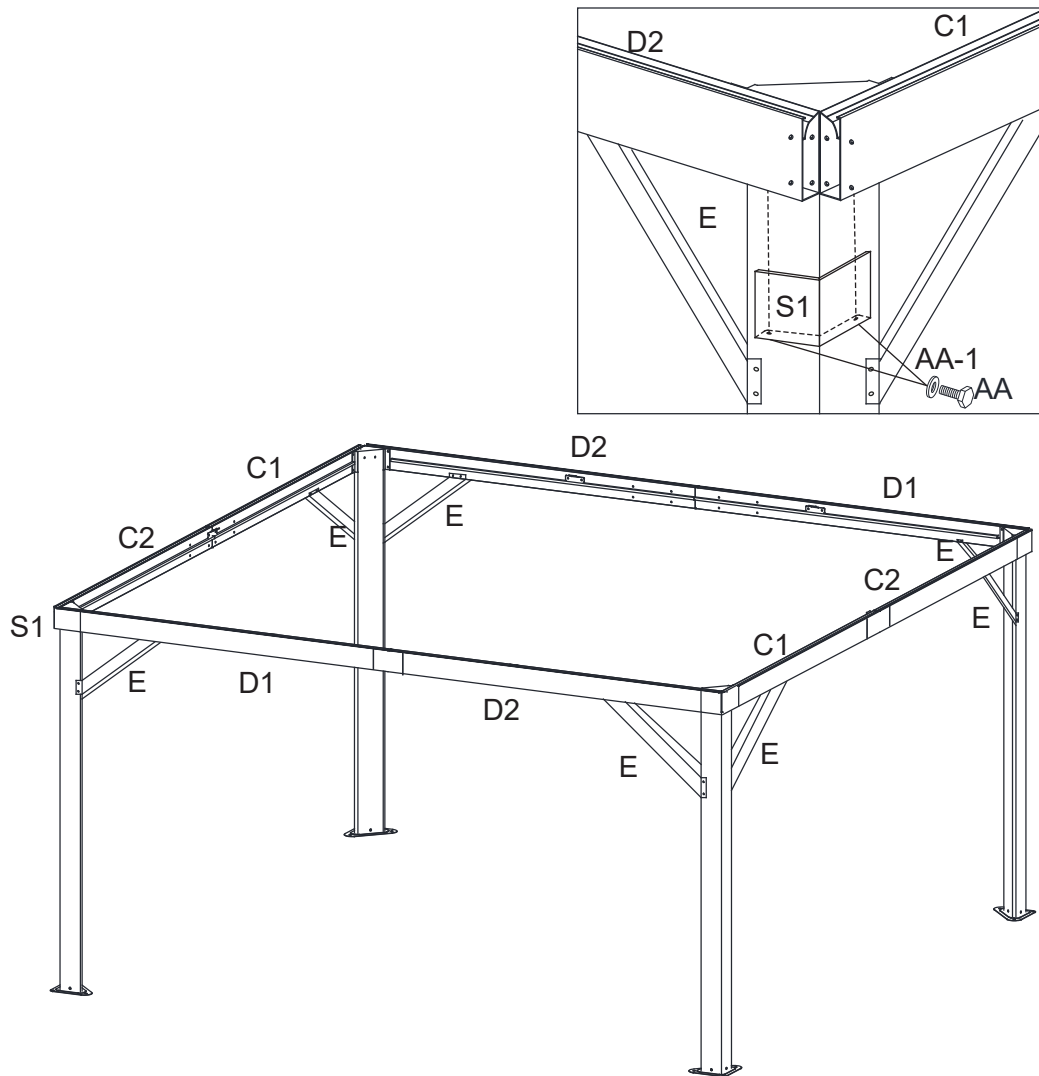

Figure 6
6. Attach Corner Lintel Cover (S1) to Long Lintels (C1 and D2) and Short Lintels (C2 and D1) with Bolts (AA) and washer (AA-1). See Figure 6.